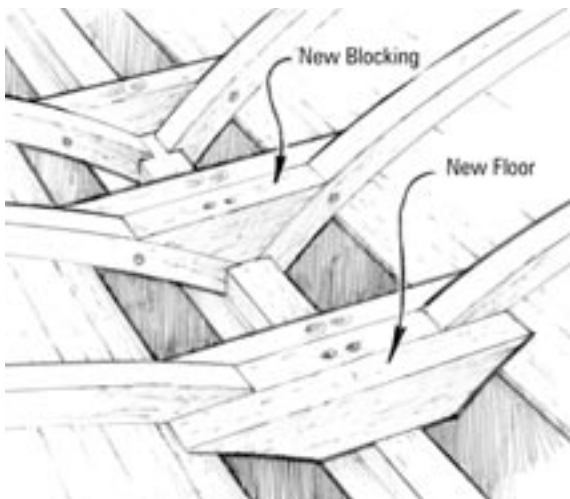

Figure 5-10 Bond new floors and blocking to the keels and frames.
5. Bond the new floors and blocking to the keel and frames (*Figure 5-10*). Wet out all mating surfaces and end grain with resin/hardener mix. Apply thickened epoxy/406 filler. Clamp in position until epoxy cures. Allow the epoxy to cure thoroughly before removing clamps and proceeding with the next step.